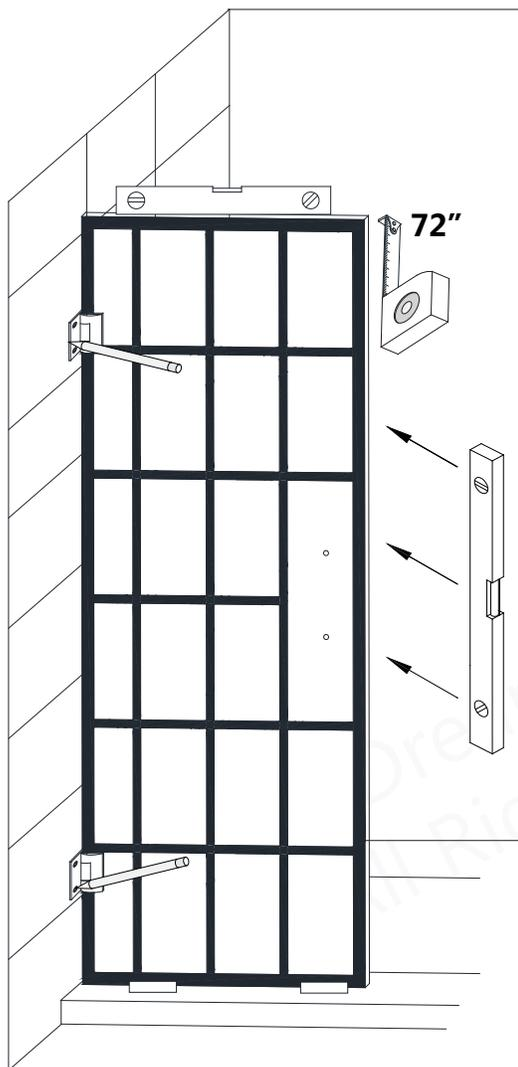

Fig 5a
5. Once the **Door Glass (#01)** is level and plumb, mark the location of the hinge plates and holes on the wall. Remove the **Door Glass (#01)** and drill $\text{\O}1/4"$ holes up to the stud and $\text{\O}1/8"$ pilot holes into the stud and let the screw bore into the wood. **DO NOT use Wall Anchors when installing into wood reinforcement.** (Fig 5a and Fig 5b)